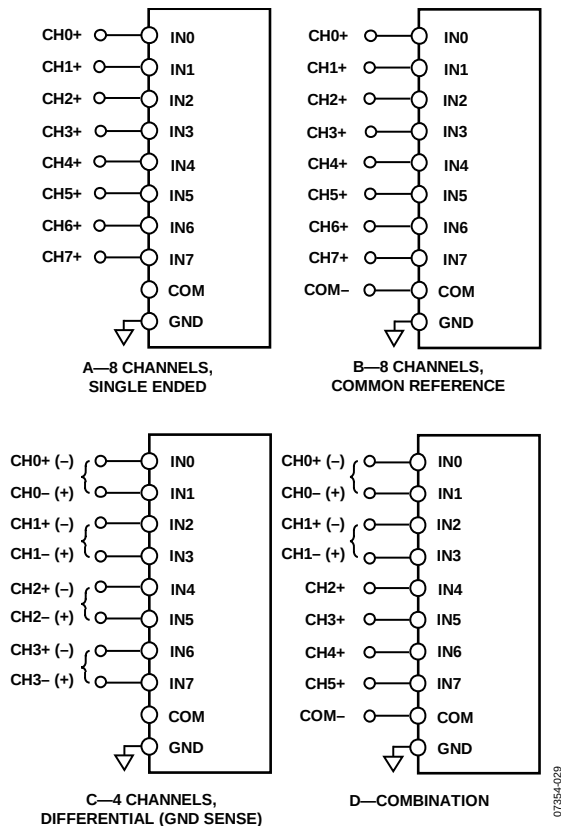

Figure 33. Multiplexed Analog Input Configurations
Figure 33 shows the different methods for configuring the analog inputs with the configuration register ( $\text{CFG}[12:10]$ ). Refer to the Configuration Register, CFG section for more details.
- Configuration A in Figure 33: single-ended referenced to system ground;  $CFG[12:10] = 111_2$ .
- Configuration B in Figure 33: bipolar differential with a common reference point;  $COM = V_{REF}/2$ ;  $CFG[12:10] = 010_2$ . Unipolar differential with COM connected to a ground sense;  $CFG[12:10] = 110_2$ .
- Configuration C in Figure 33: bipolar differential pairs with  $INx-$  referenced to  $V_{REF}/2$ ;  $CFG[12:10] = 00X_2$ . Unipolar differential pairs with  $INx-$  referenced to a ground sense;  $CFG[12:10] = 10X_2$ . In this configuration, the  $INx+$  is identified by the channel in  $CFG[9:7]$ . For example, for  $IN0 = IN1+$  and  $IN1 = IN1-$ ,  $CFG[9:7] = 000_2$ ; for  $IN1 = IN1+$  and  $IN0 = IN1-$ ,  $CFG[9:7] = 001_2$ .
- Configuration D in Figure 33: inputs configured in any of the above combinations (showing that the AD7699 can be configured dynamically).